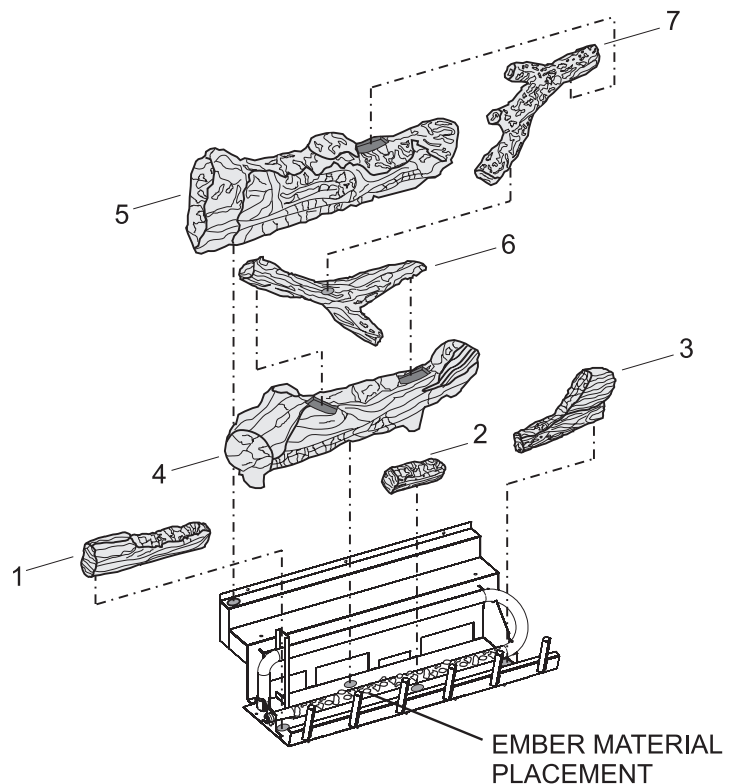

Figure 58
10. After all logs are positioned properly, apply glowing ember material to the front burner port area. To apply, carefully separate the ember material into small amounts no larger than "dime size" pieces. Fluffed up pieces one layer thick on top of the burner generally work best, and will provide the best ember glow. Do not place ember material more than one layer thick. No more than one small packet of ember material (part no. 15999) evenly placed on the burner, is recommended on DVD32 and DVD36 models. Using additional ember material will decrease the amount of ember glow effect. Extra ember material should be saved for future application as necessary. See **Figure 58**.
The positioning of logs is critical to safe and clean operation of this fireplace. Sooting and other problems may result if the logs are not properly and firmly positioned in the fireplace. Please refer to **Figure 57** and **Figure 58** and corresponding WARNING when completing following log placement steps.
11. After all logs are properly positioned, place small "dime" size pieces of Rockwool lightly across the front burner tube ports. Place the ember material (Rockwool pieces) side by side. Do not stack more than one layer of embers across the burner ports. **See Figure 58.**
Attention: Do not use **Figure 57** or **Figure 58** to order logs. Refer to parts lists and parts views on pages 60 to 63 to order logs and/or ember material for your appropriate fireplace model.